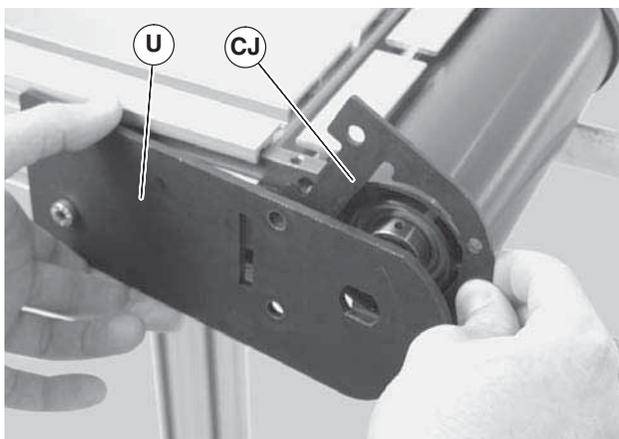

Figure 61
3. Pull back the outer headplate (Figure 61, item U) and remove the inner spacer (CJ).